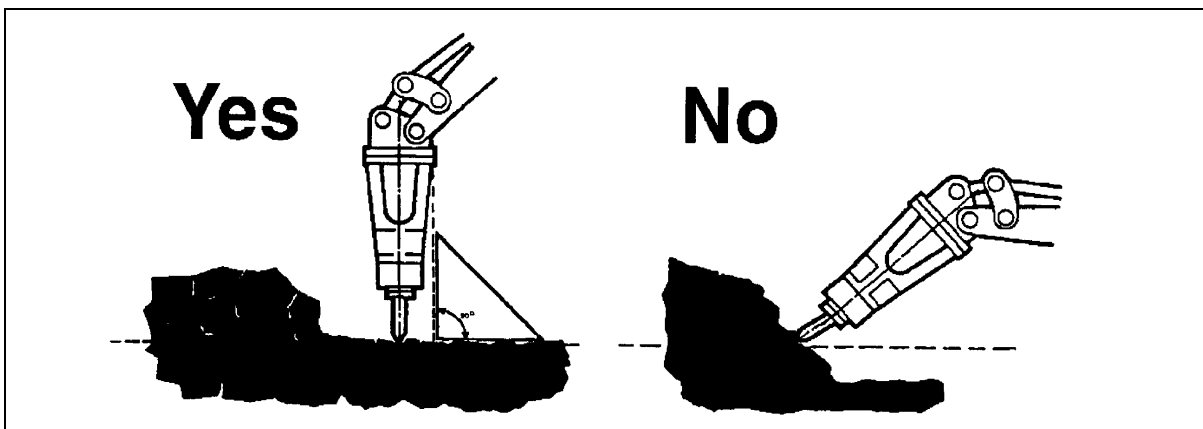

Figure 02-02: Keep Tool Perpendicular to Working Surface
- b) Place the hammer tool perpendicular to the surface to be broken. (Figure 02-02) Always act with the carrier arm, keeping the hammer perpendicular to the work and describing a slight arc, closing the arm towards the operator. This method of operation will dramatically extend the life of the tool and bushing.